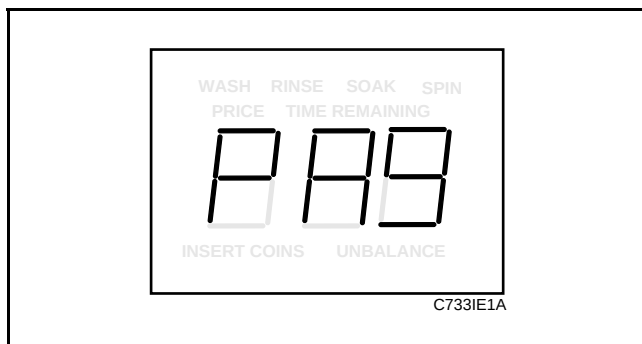

Figure 47
3. Press the DELICATES (+) pad or the COLD (-) pad to scroll through the programmable options until “PAg” appears in the VFD. See **Figure 47**.